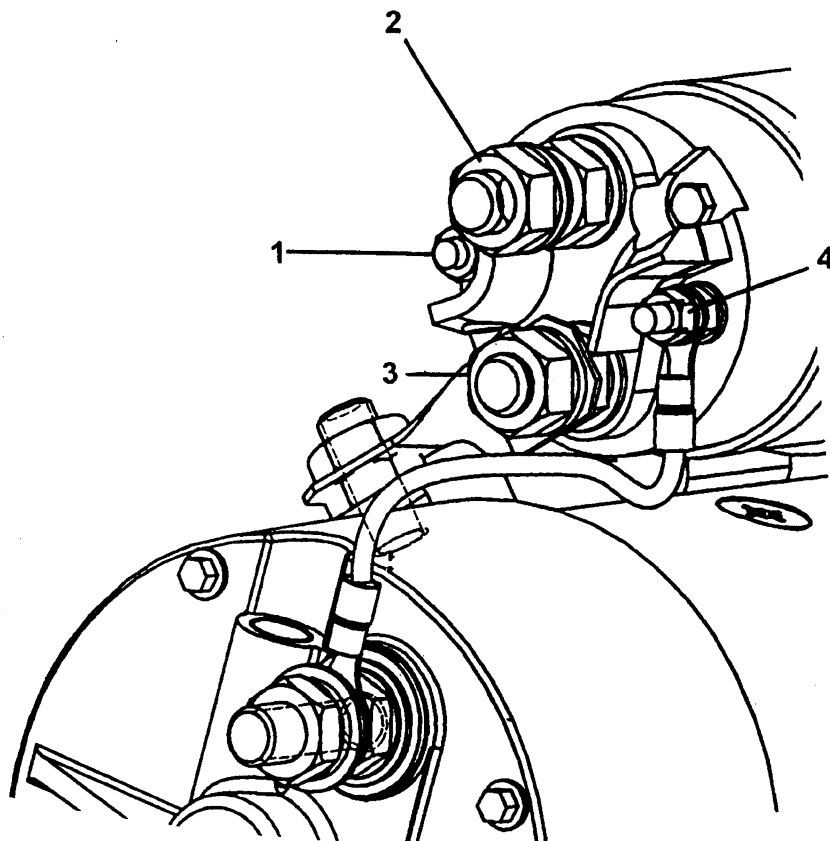

Fig. 1
- (1) Disconnect the jumper lead from the solenoid terminal (4) in Fig. 1.
- (2) Remove the motor field terminal stud nuts, securing the locknut with an open ended spanner to prevent the stud from turning
- (3) Remove the two bolts holding the solenoid to the field ring assembly
- (4) Remove the nose housing.
- (5) Pull the switch back and unhook from the top of the lever arm.